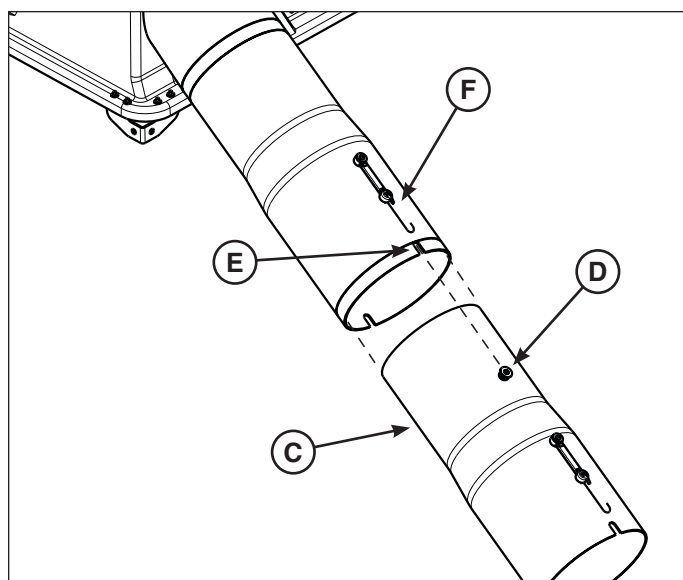

Figure 10
2. Insert the lower tube (C, Figure 10) into the bottom of the upper tube as shown. Make sure the tee-nut (D) on the lower tube slips into the slot (E) in the upper tube. Secure by hooking the strap (F) on the upper tube onto the tee-nut on the lower tube.